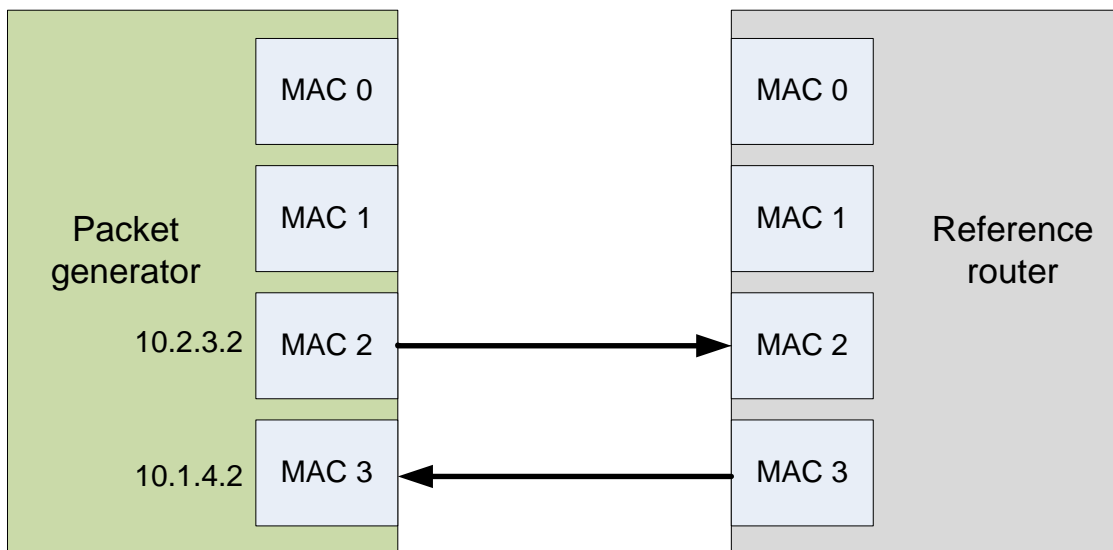

Figure 12: DE4 NetFPGA Reference router-Packet generator setup
The test setup for testing the DE4 NetFPGA reference router-Packet generator system is illustrated in Figure 12.
1. Connect Reference router and Packet generator as per Figure 12